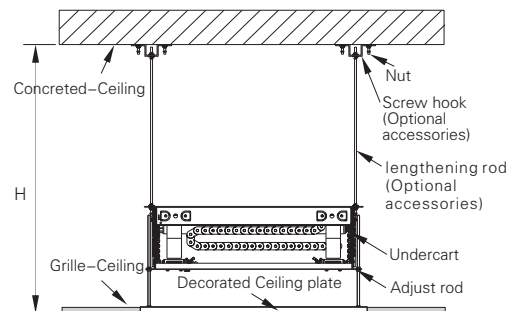

Figure 4 High Ceiling
B. If  $H > H1$  (Supposed it's Maximum H2), need lengthening bar (Optional accessories) to install. Check Figure 4.